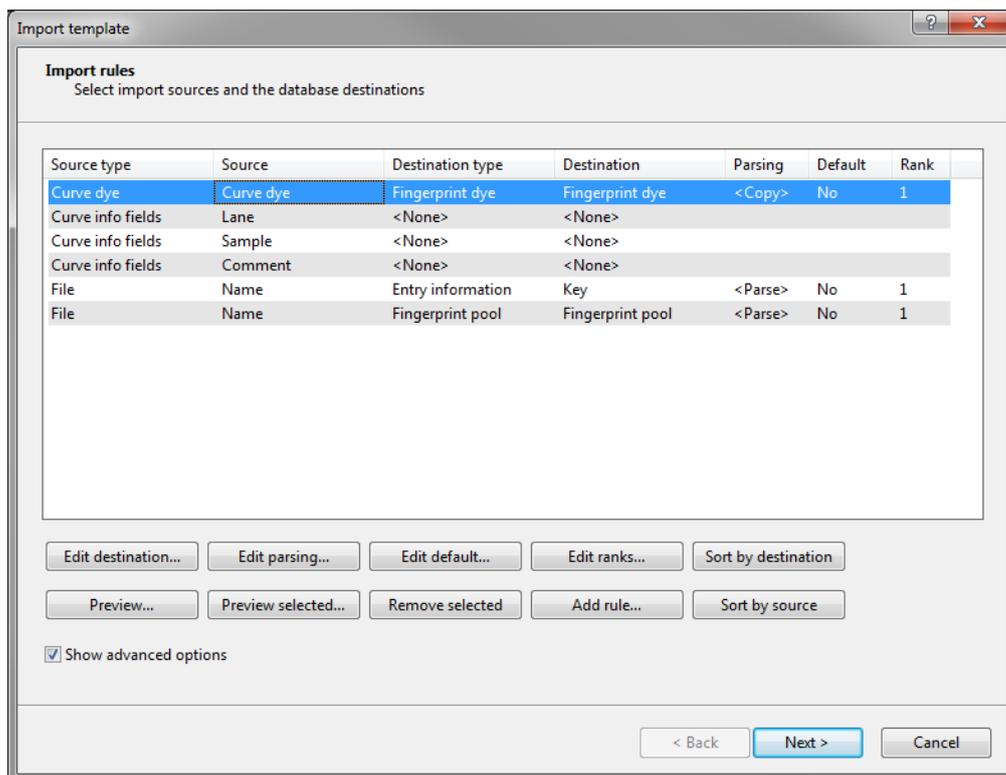

Figure 2: Import rules.
5. Press the **<Create new>** button to call the *Import rules* dialog box (see Figure 2).
The *Import rules* dialog box should now look like Figure 2.